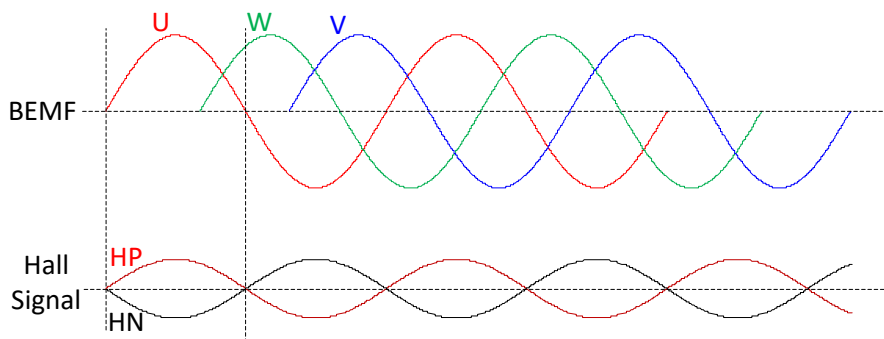

Figure 12. Hall Placement=0° HallPos=0 Hall Element Input
(2) Phase U is leading phase W by 120°. Phase W is leading phase V by 120°. The hall positive output is aligned with BEMF of phase U. Set the register HallPos to 0. The sequence is shown in Figure 12.